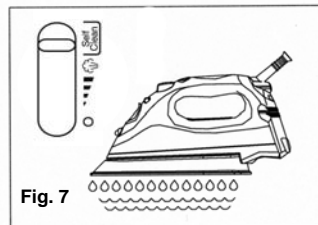

Fig. 7
5. Turn the variable steam control all the way to the right to the self-cleaning position and hold the iron horizontally over the sink. (Fig. 7)